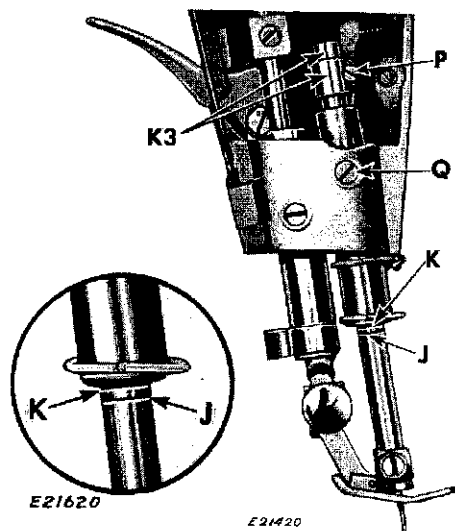
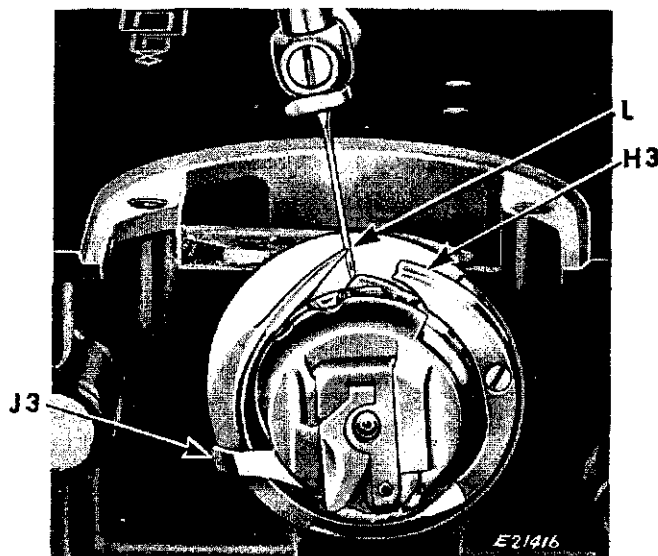
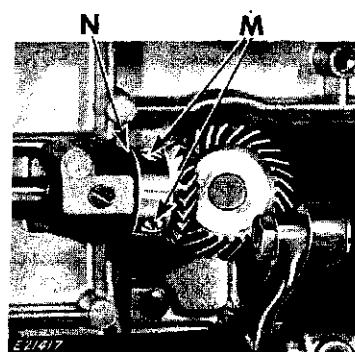
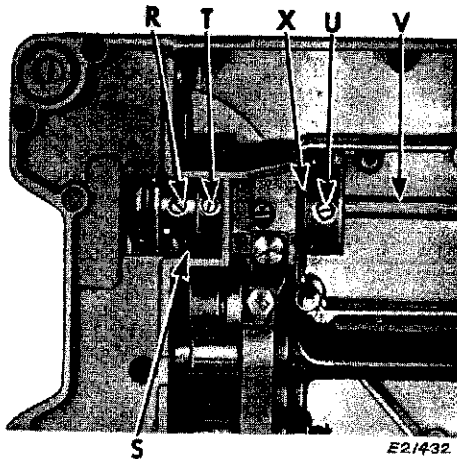

Fig. 6. Timing Rotating Hook
Fig. 7. Relation of Needle to Rotating Hook
Fig. 8. Adjusting Gears For Correct End Play
Fig. 9. Removing and Replacing Rotating Hook and Replacing Hook Shaft
1. Remove presser foot and throat plate. (Feed dog has been removed in Figs. 6 and 7 for clearer view, but it need not be removed to time rotating hook.)
2. Turn hand wheel over toward you until lower timing mark J, Fig. 6 on needle bar is aligned with lower end of the needle bar bushing at K on upward stroke of needle bar
3. If needle bar is at correct height and in position described in paragraph 2 above, and if hook is correctly timed, then point of hook should be at center of needle and approximately 1/16" above eye of needle as shown at L, Fig. 7. Gib H3 of rotating hook is shown broken away and bobbin case base is moved around so that position finger J3 is out of the way in Fig. 7 for clearer view of needle and point of hook.
2. Loosen two set screws M, Fig. 8 in gear at right hand end of hook shaft
3. Turn hook until its point is in proper relation to needle as explained above and shown in Fig. 7
4. Tighten two screws M, Fig. 8, maintaining proper backlash to ensure correct gear mesh
NOTE: Hub of gear should never bear against face of bushing at N, Fig. 8
To set needle bar at the correct height, the rotating hook must first be timed correctly as described on page 5. Then turn the hand wheel over toward you until the needle bar reaches its lowest point as shown in Fig. 6. With the needle bar in this position, the upper timing mark should be in alignment with the lower end of the needle bar bushing as shown at K, Fig. 6.
If the needle bar is not set at the correct height, loosen the screw P, Fig. 6 behind the face plate and move the needle bar up or down until the correct setting is acquired and then securely tighten the screw P.
The needle bar bushing is accurately set at the factory and needs no adjustment. If its position has been disturbed, however, turn the hand wheel over toward you until the point of the hook, on the upward stroke of the needle bar, is at the center of the needle and approximately $1/16$ " above the eye of the needle as shown in Fig. 7. Loosen the bushing set screw Q, Fig. 6 and move the bushing up or down until the lower timing mark J, Fig. 6 on the needle bar aligns with the lower end of the bushing at K, Fig. 6. Then tighten the set screw Q.
1. Adjust the needle bar bushing until the recess in the bushing is visible through the set screw hole for the screw Q, Fig. 6.
3. Loosen the clamp screw P, Fig. 6 of the needle bar
4. Adjust the needle bar so that the upper timing mark aligns with the bottom of the needle bar bushing as shown at K, Fig. 6, then tighten the needle bar clamp screw P, Fig. 6
5. Loosen the gear screws M, Fig. 8
6. Turn the hand wheel over toward you so that, on the upward stroke of the needle bar, the lower timing mark J, Fig. 6 aligns with the bottom of the needle bar bushing at K, Fig. 6
7. Rotate the hook manually until the hook point is at the center of the needle blade as shown at L, Fig. 7, and then tighten the gear screws M, Fig. 8
8. Turn the hand wheel over toward you until the hook point is at the center of the needle (on the upward stroke of the needle bar) and the lower timing mark aligns with the bottom of the needle bar bushing. (This is to serve as a check on operation 7 above.) Loosen the needle bar clamping screw P, Fig. 6 and move the needle bar up or down until the eye of the needle is approximately $1/16$ " below the point of the hook. Turn the needle bar until the positioning marks K3, Fig. 6 on the needle bar and the needle bar clamp are in alignment. Tighten the screw P in the needle bar clamp.
10. Loosen the needle bar bushing set screw Q, Fig. 6 and move the bushing up or down until the bottom of the bushing aligns with the upper timing mark on the needle bar as shown at K, Fig. 6, and tighten the screw Q
2. Loosen two screws, only one of which is visible at R, Fig. 9 in hub of hook
1. Turn hand wheel over toward you until flat on hook shaft is visible through opening S, Fig. 9
2. Place hook on shaft so that set screw R, Fig. 9, on same side of hub as point of hook, is set on flat of hook shaft
2. Loosen screw T, Fig. 9 in shaft collar, and screw U, Fig. 9 in counterbalance so that they slide freely on shaft V, Fig. 9
3. Loosen two screws M, Fig. 8
6. Use new shaft (with flats at left end) to push out old shaft from right to left. Insert new shaft through opening in casting from which two pin terminal was removed. Be sure that end of shaft with two flats (for rotating hook screw R, Fig. 9 and shaft collar T and for counterbalance screw U) is at the left
1. Set and tighten screw T, Fig. 9 of collar so that left hand end of shaft projects $15/32$ " beyond left hand edge of collar
2. Take out end play by setting counterbalance against bushing at X, Fig. 9, pushing collar and counterbalance toward each other, and tightening screw U, Fig. 9 in counterbalance
3. Replace rotating hook on shaft, with set screw R, Fig. 9 (which is on same side of hub as hook point) against flat of hook shaft. Then, while keeping hub of hook against shaft collar, tighten screw R, Fig. 9 which engages flat and then tighten screw on other side of hub. Set gear at right hand end of shaft with clearance between gear hub and bushing, and tighten two screws M, Fig. 8